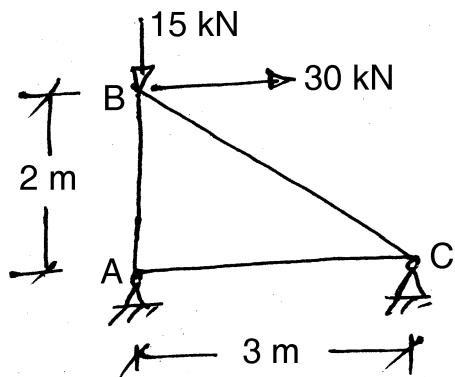

Fig. 6
6. Find forces in all members of pin jointed frame shown in Fig. 6 by member oriented stiffness method. Assume AE of all members same.